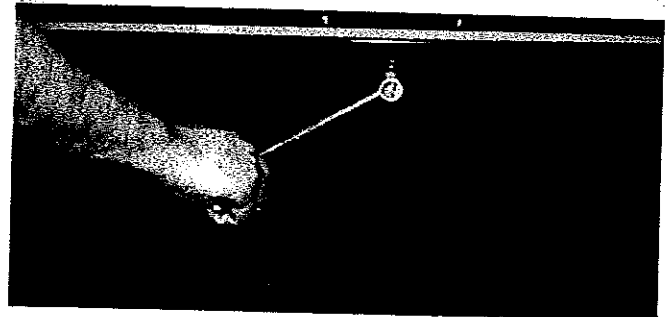

FIGURE 4
1. Remove the crank handle from its storage location and attach it to the crankshaft located at the center of the rear bumper. See Figure 4.